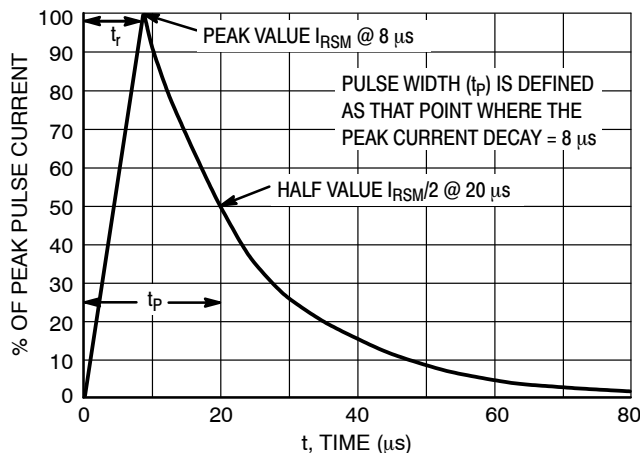

Figure 7. 8 X 20 μs Pulse Waveform
1. Surge current waveform per Figure 7.